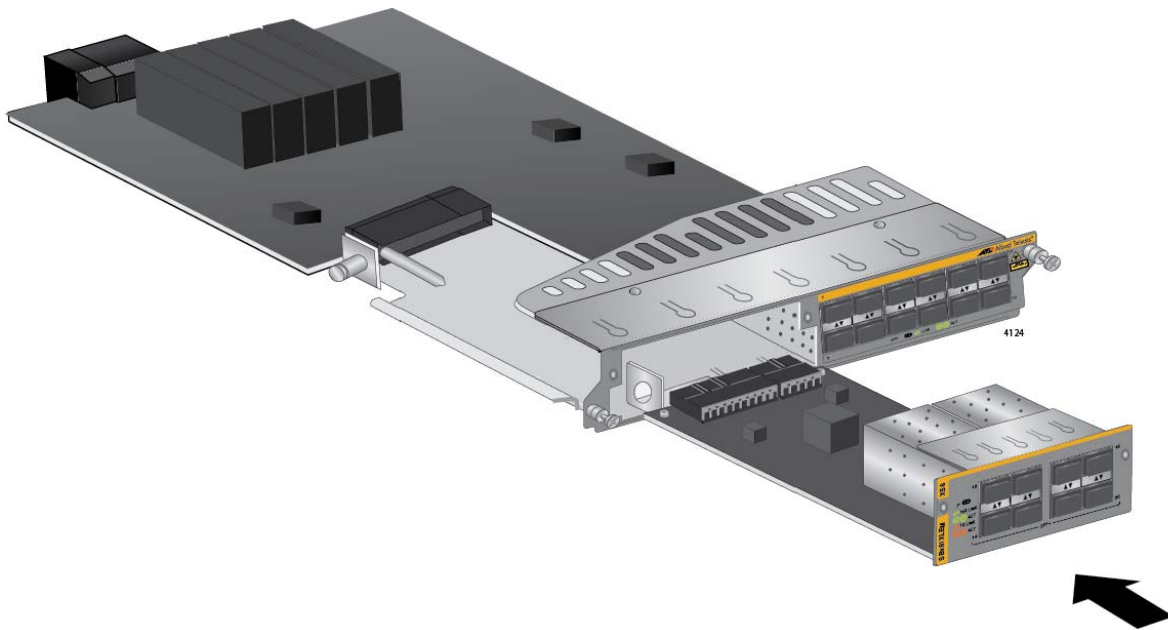

Figure 86. Sliding the Expansion Module into the AT-SBx81XLEM Line Card
8. Carefully align the expansion module in the module slot, as shown in Figure 86, and slide it into the line card.